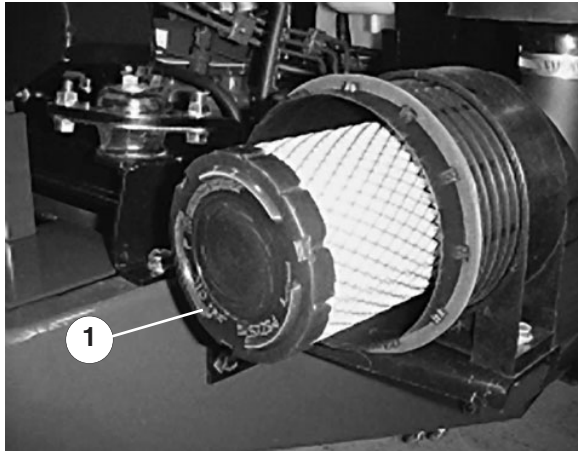

Figure 24
2. Gently slide the primary filter (Fig. 24) out of the air cleaner body to reduce the amount of dust dislodged. Avoid knocking the filter against the air cleaner body.